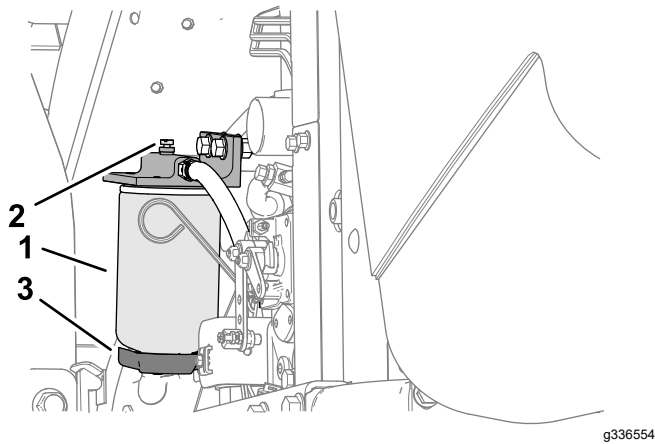

Figure 73
4. Loosen the drain valve on the bottom of the filter canister (Figure 73).
3. Clean the area where the filter canister mounts (Figure 73).